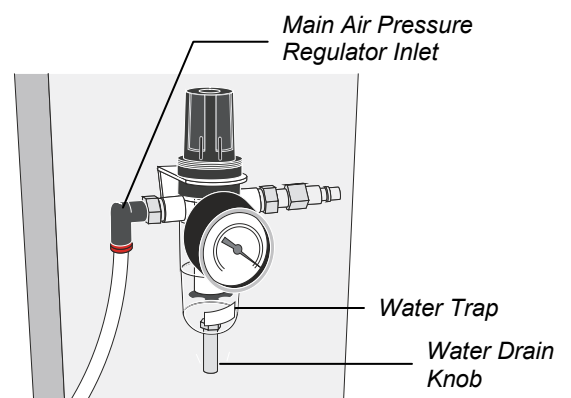

Figure 4-3 Draining the Water Trap
2. Shut off facility air pressure and disconnect the facility air supply from the main air pressure regulator inlet (Figure 4-3).